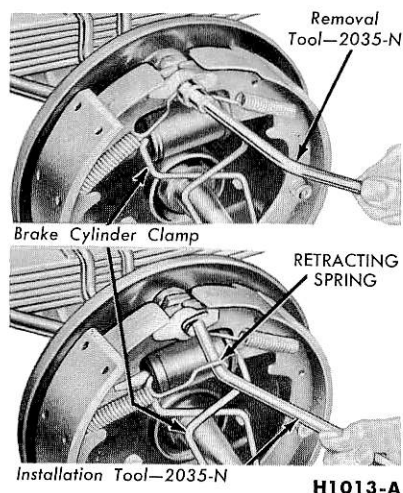

FIG. 9—Spring Replacement
2. Clamp the brake cylinder boots against the ends of the cylinder, and remove the brake shoe retracting springs from both shoes (Fig. 9).
5. Install the brake shoe retracting springs on both shoes (Fig. 9), being careful not to bend the hooks or to stretch the springs beyond the attaching points. **The primary shoe spring must be installed first.**
the location of each brake shoe retracting spring, and remove the four brake shoe retracting springs with the tool shown in Fig. 9.
a. Clamp the brake cylinder boots against the ends of the cylinder and remove the four brake shoe retracting springs with the tool shown in Fig. 9.
d. Install the four brake retracting springs with tool shown in Fig. 9. Make sure the retracting springs are replaced as shown in Fig. 12. Improper installation of the springs may result in uneven brake lining wear, due to dragging, and unsatisfactory brake operation.
c. Install the four retracting springs with the tool shown in Fig. 9.